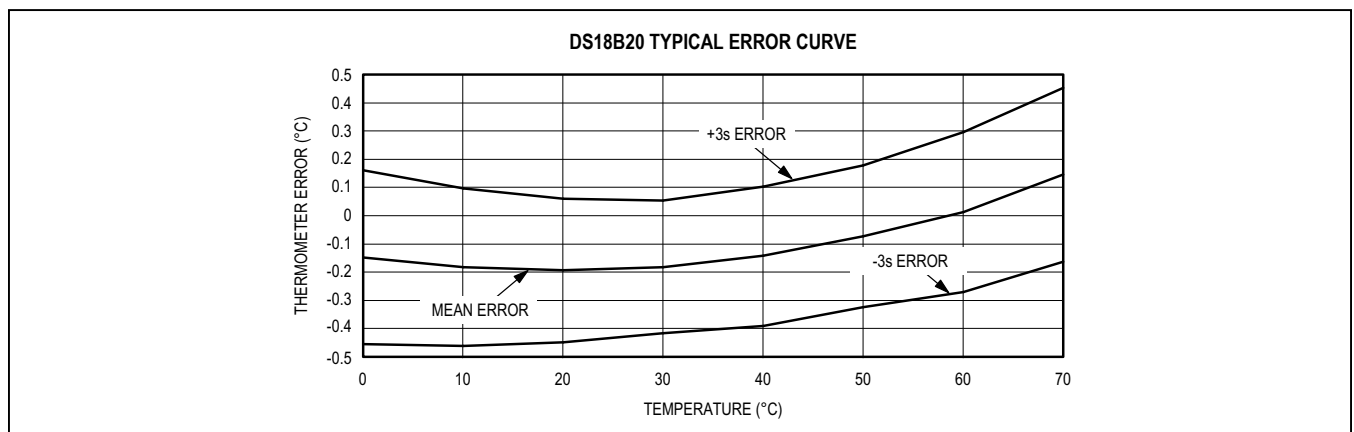

Figure 1. Typical Performance Curve
- Note 3:** See typical performance curve in Figure 1. Thermometer Error limits are 3-sigma values.